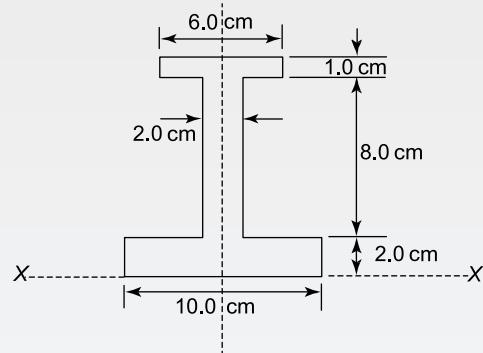

Figure RT3.3
- (9)
- (a) Find the second moment of area and radius of gyration about the axis XX for the beam section shown in Figure RT3.3.